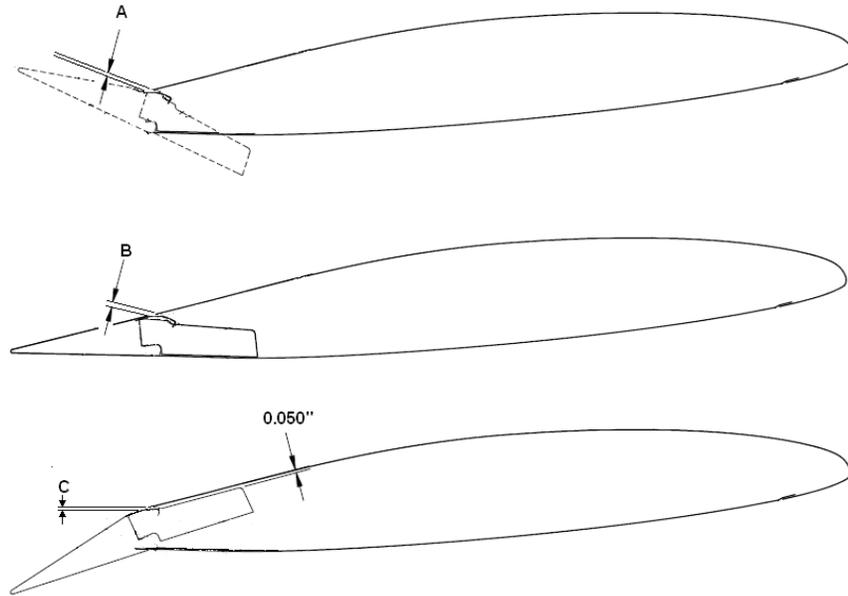

Figure 27-6 Details for the Measurement of the Aileron
8. Check clearances between the top of the aileron skin and the wing trailing edge skin (T/E) as follows per Table 27-2 and Figure 27-6.